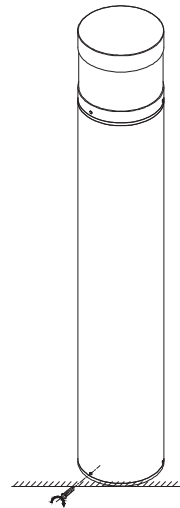

Fig6
- Assemble fixture, then tighten the set screwsx3 with hex wrench. (Fig6)